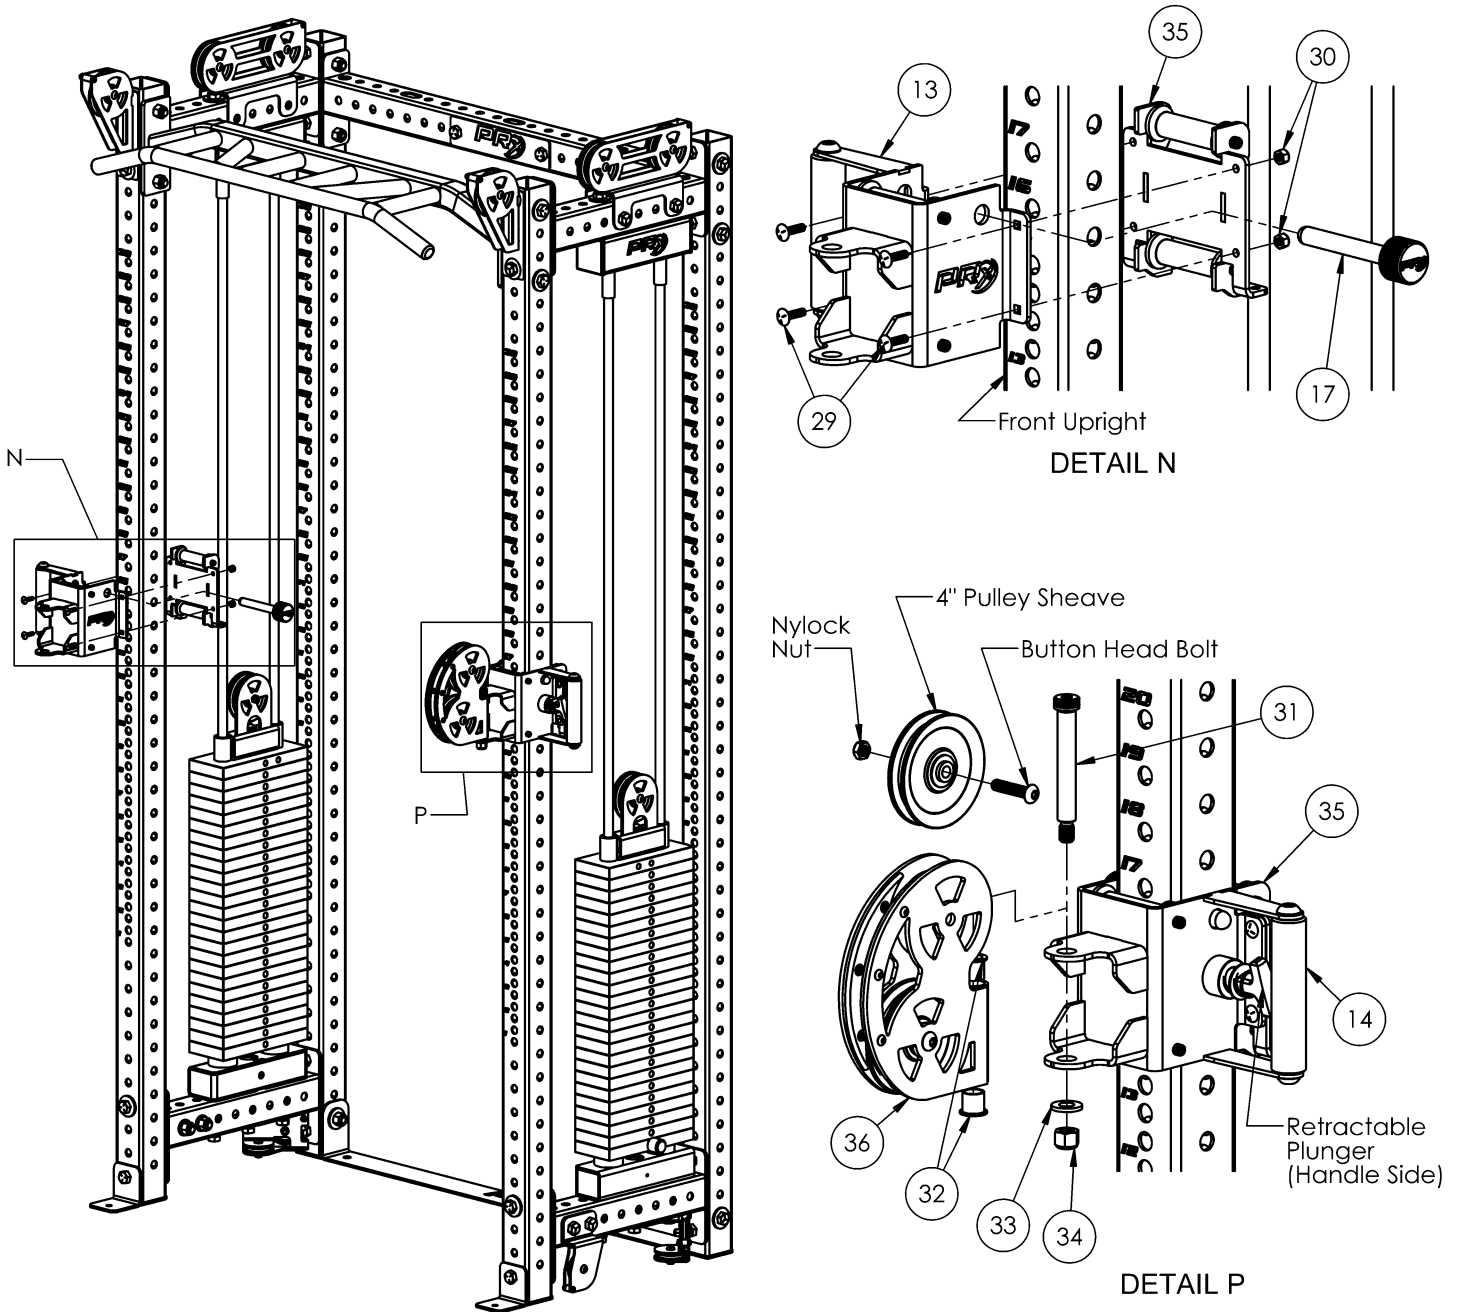

Figure 8
1. Attach the front half of the Left Front Trolley Assembly (13) to the left side upright at a comfortable working height. **Figure 8, Detail N**
*NOTE: To make it easier to assemble, pin it to the upright with the retractable plunger located behind the handle, and insert one of the Mag Pins (17) to keep it secured to the rack. **Figure 8, Details N & P***
2. Attach the Rear Trolley Assembly (35) to the back of the Front Trolley Assembly (13) with 1/4" Carriage Bolts (29) and 1/4" Nylock Nuts (30). **Figure 8, Detail N**
4. Repeat steps 1 through 3 with Right Front Trolley (14) on the opposite side of the rack.
5. Remove the top 4" Pulley Sheaves from the Trolley Sheave Assemblies (36).
*NOTE: This is so the 5/8" shoulder bolt (31) can be put in place. **Figure 8 Detail P***
6. Insert two 5/8" Bushings (32) into the Trolley Sheave Assemblies (36) and slide them into the Front Trolley Assemblies (13) and (14) with the hardware shown. **Figure 8, Detail P**
7. Place 4" Pulley Sheaves and hardware back into Trolley Sheave Assemblies (36).